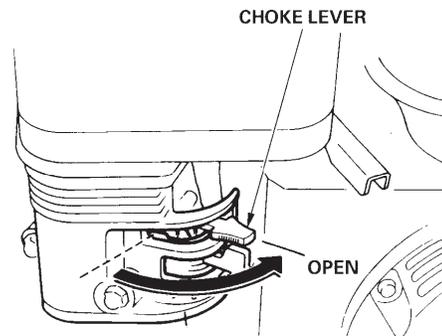

Figure 11. Engine Choke Lever (Open)
4. Place the **choke lever** (Figure 11) in the "**OPEN**" position if starting a **warm** engine or the **temperature is warm**.
7. If the engine has started, slowly return the choke lever (Figure 11) to the **OPEN** position. If the engine has not started repeat steps 1 through 6.